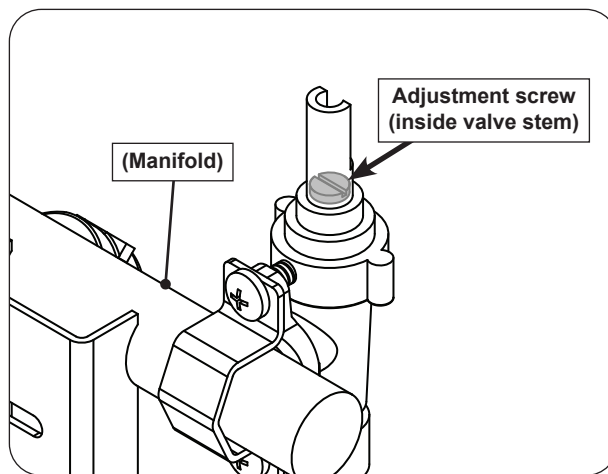

Fig. 34-1 Valve adjustment screw location
3. Locate the FLATHEAD adjustment screw found inside the valve stem (see Fig. 34-1).